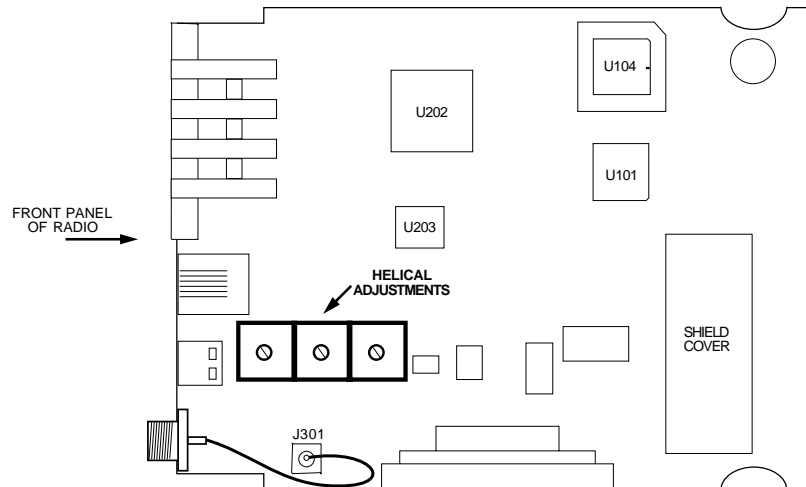

Figure 15. Helical Filter Location
2. Locate the helical filters on the PC board. See Figure 15.